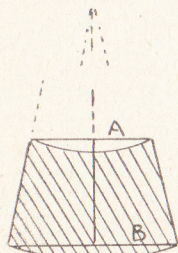

Fig. 1—Shape pattern
A pattern for the shade must be drawn out first. This is shown at Fig. 1. On a sheet of paper, draw line (A), the small diameter of the shade, below this line (B), the large diameter, both lines being separated by a distance equal to the depth of the shade. Connect these lines at each end, then extend them until they meet at the centre line.